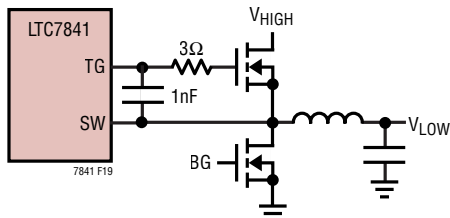

Figure 18. Filter for TG Traces > 25mm
2. The TG traces from the controller IC to the gate of the external MOSFET should be kept as short as possible to minimize the parasitic inductance. This inductance can cause voltage spikes that can potentially exceed the ABS Max rating of the drivers and damage them. A 3Ω resistor and 1nF capacitor can be used to filter these spikes as shown in Figure 18. If the TG traces are longer than 25mm, this filter network must be used on both TG1 and TG2. The 1nF capacitor should be placed as close to the TG/SW pins as possible.